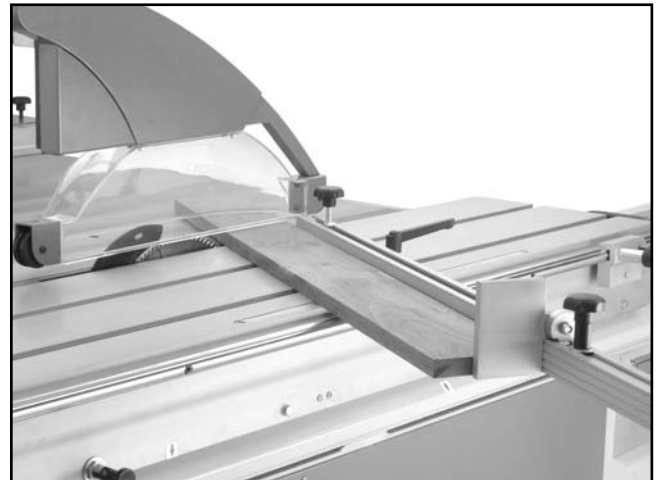

Figure 74. Example of miter cutting operation for a cut length less than 45".
6. Load the workpiece onto the table saw. The set up should look similar to **Figure 74 or 75**.